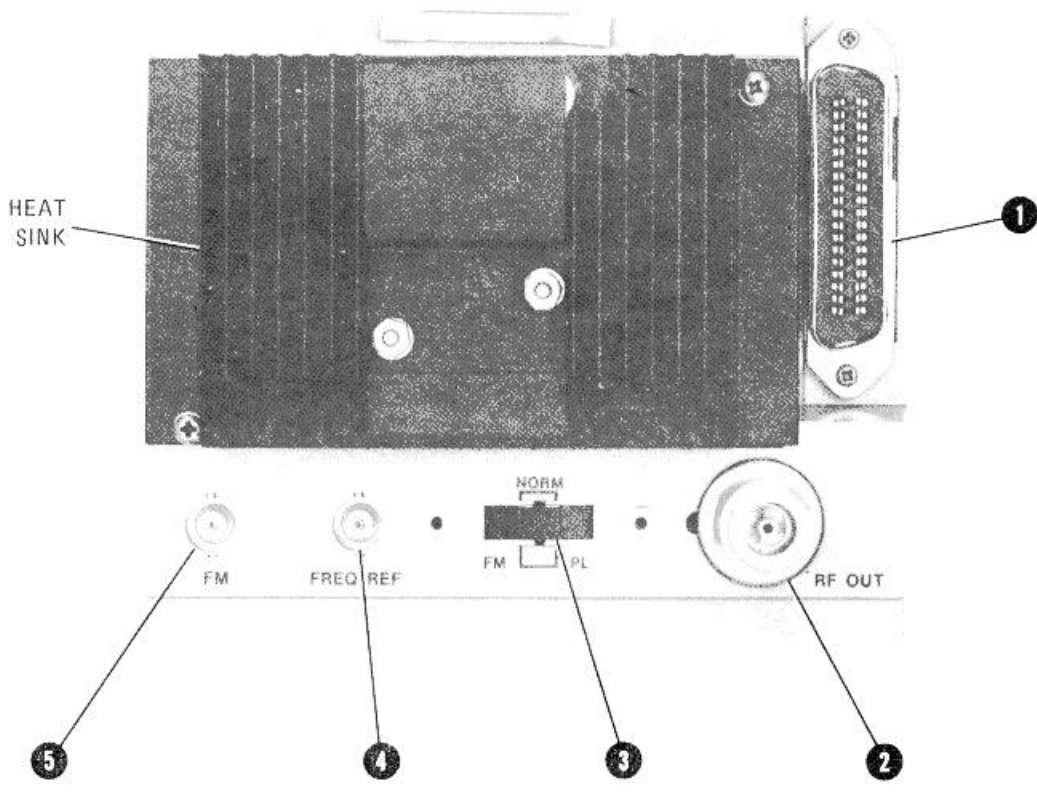

Figure 10-2. Rear Panel Connectors and Controls (Option 004)
Replace Figure 3-2 with Figure 10-2.
- Replace Figure 3-2 with Figure 10-2.